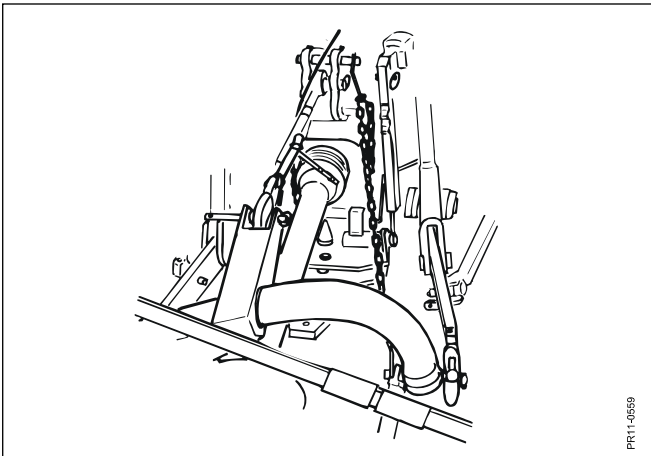

Fig. 2-6
- Fig. 2-6:** A support chain can be supplied to stabilise the depth stop, -JF- no.: consult spare parts list.